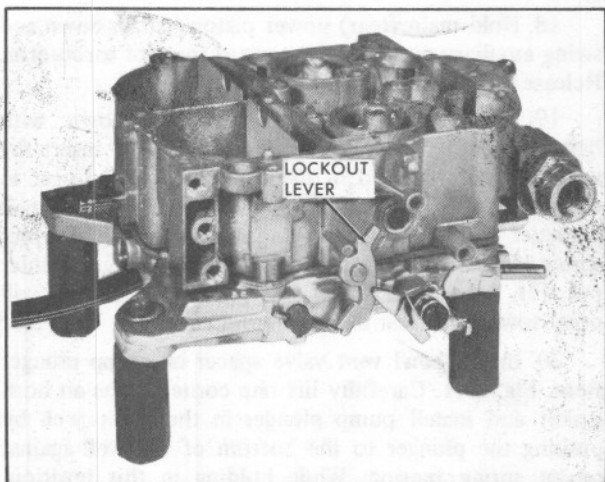

Fig. 6-37 Secondary Lockout Linkage
2. Install secondary throttle valve lock-out lever on boss on float bowl with recess in hole in lever facing carburetor bowl, Fig. 6-37.